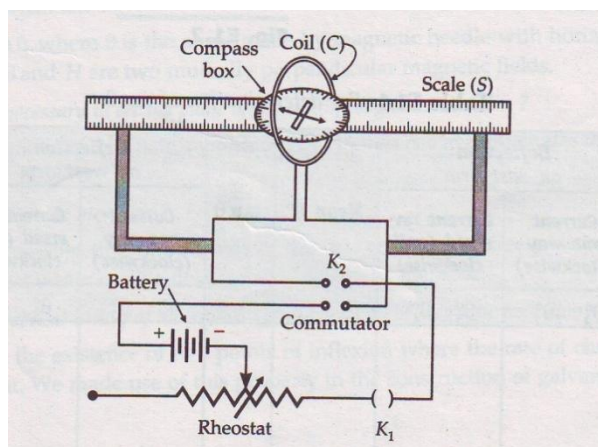

Figure 1: Circuit Diagram
To study the magnetic field of a circular coil, Stewart Gee's type tangent galvanometer can be used. It has a magnetic compass needle pivoted at the centre of a circular compass box. The needle itself is non-magnetic but it has a small permanent bar magnet attached to it at right angles, as shown in **fig1**. There is a coil mounted in a plane, perpendicular to that of the compass box.
2. Now connect the galvanometer to a battery through a rheostat, a one way key K_1 an ammeter and a reversing key K_2 as shown in **fig1**. Use a 3-6 V low current DC source otherwise.